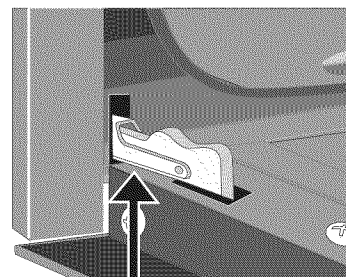
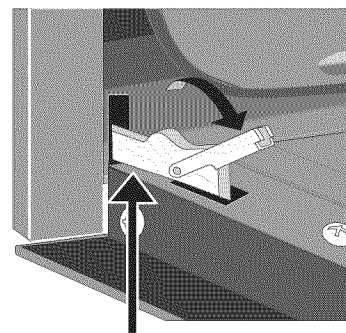

Figure 43: Door hinge locks
Figure 44: Hinge: unlocked position
2. Pull up the lock located on each hinge support toward front of the oven. You may have to apply a little upward pressure on the lock to pull it up (Figure 43 and Figure 44).
4. Push the door hinge locks up toward and into the oven frame on both left and right oven door hinges to the locked position (Figure 43).